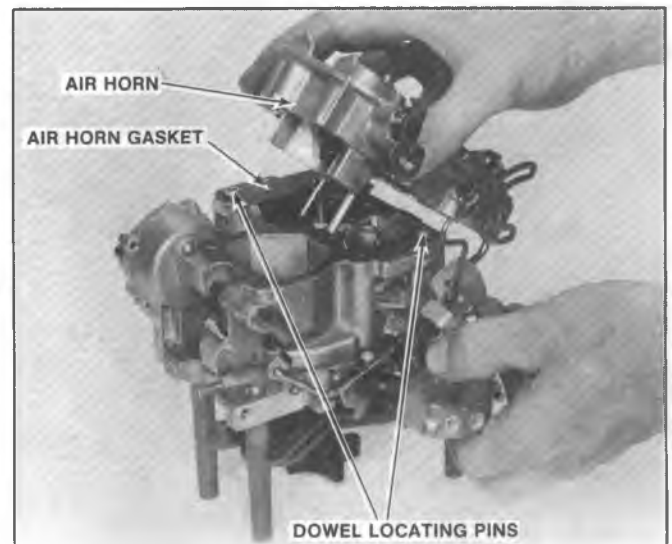

Fig. 6C2-7--Air Horn Assembly
- Remove power piston and metering rod assembly by depressing piston stem and allowing it to snap free (Fig. 6C2-8). The power piston can be easily removed by